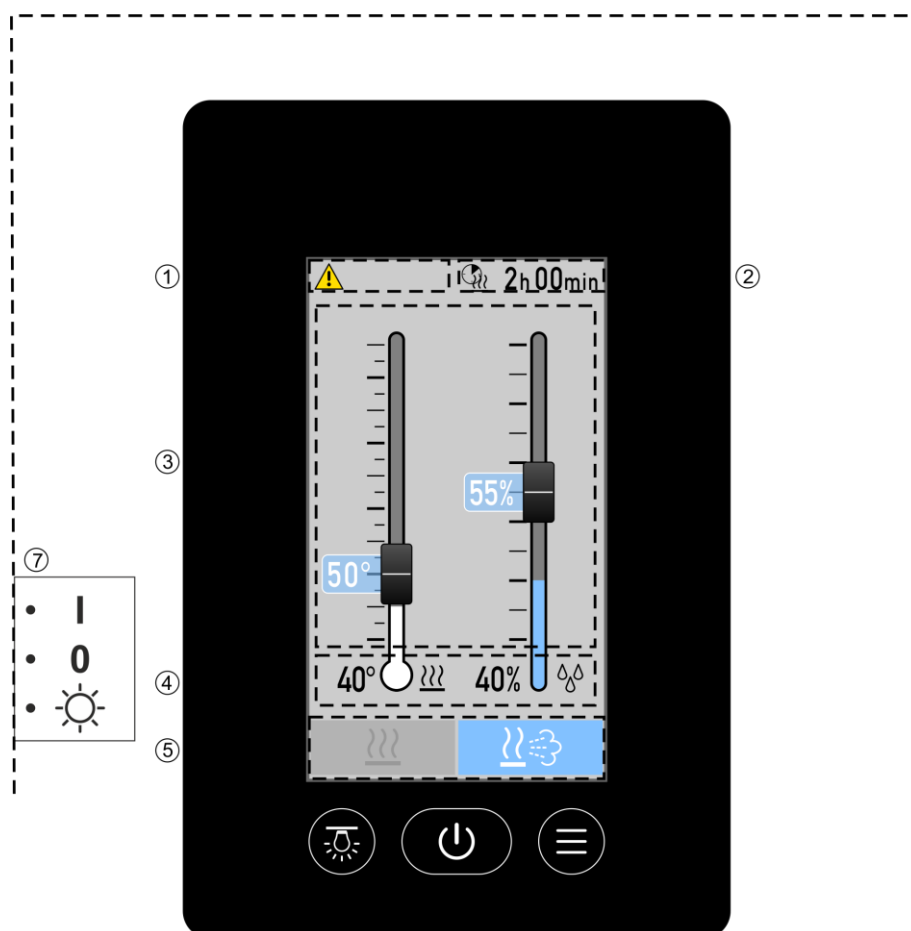

Fig. 2: View of the controls for the FCU5xxx Design Touch
The following symbols can be shown in the status bar (1 in fig. 2):
1. Use the "Control unit ON" key to switch on the sauna control unit. → Refer to page 11 (fig. 2) or page 12 (section 4.2.2).
2. Use "Control unit standby" or "Power OFF" to switch off the sauna control unit → Refer to page 11, fig. 2 or page 12 (section 4.2.2).